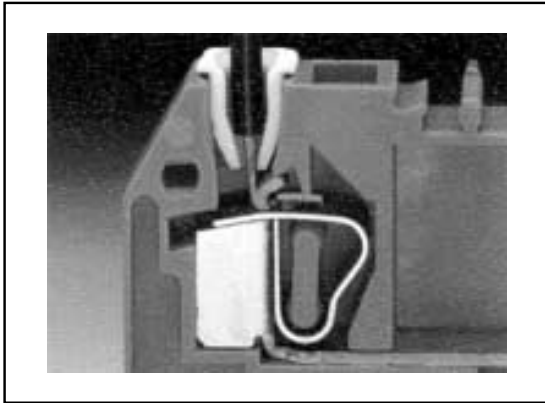
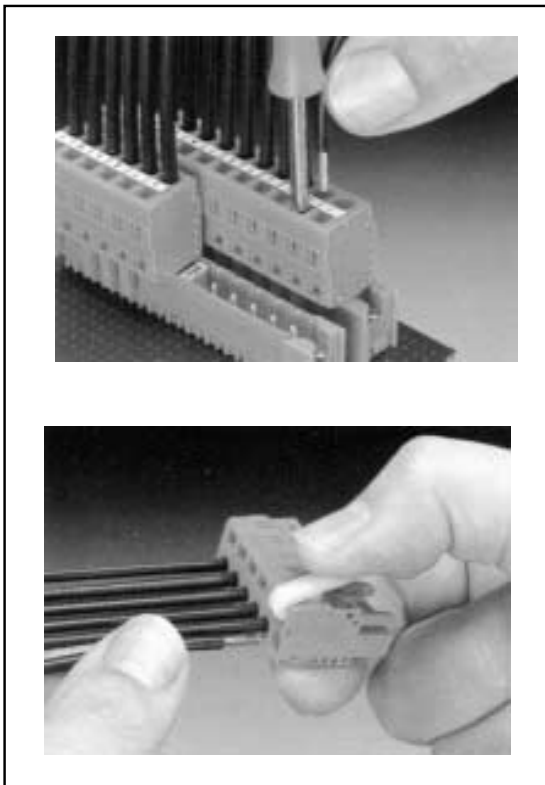

Fig 4 WAGO 231 cross-section
Fig 5 Connecting a WAGO 231
3. A small screwdriver with blade width around 2.5 mm (0.1") or a specific wire insertion tool as shown in Fig 5 (right side) might be used to open the clamp contact.
4. In case the screwdriver is used: insert it into the square hole of the corresponding connector pin as shown in the left side of Fig 5. The blade of the screwdriver should be inserted far enough into the connector. The metal spring of the cage clamp, which is visible from the side of the connector, should be completely covered by the blade of the screwdriver (refer to Fig 4 which shows the internal clamp construction).